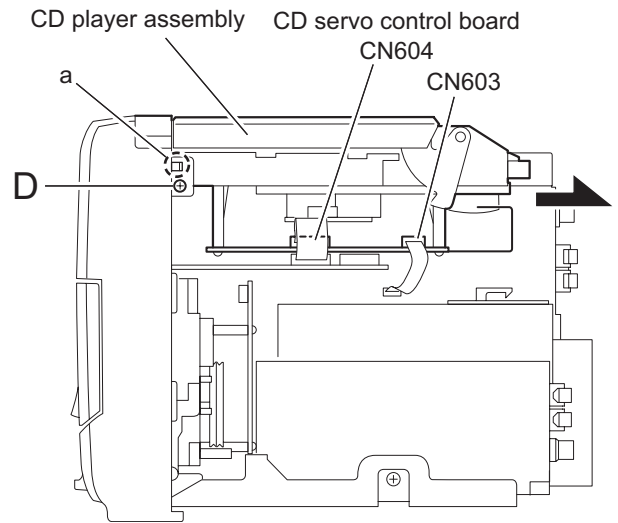

Fig.6
3.1.3 Removing the CD player assembly (See Fig.6,7)